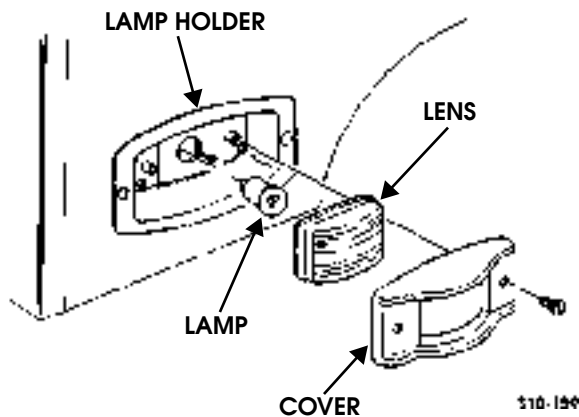

Figure 10-154: Side Marker Light Lens and Lamp Replacement
Remove two screws, cover, lens, and lamp from lamp holder (Figure 10-154).
1. Install lamp. Secure lens, and cover to lamp holder with two screws (Figure 10-154).